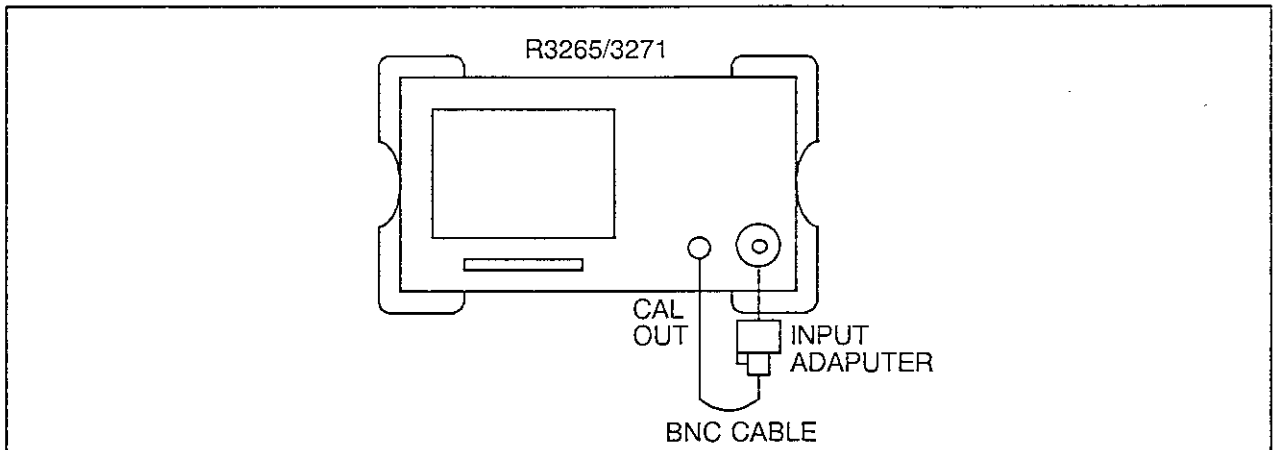

Figure 4-8 Resolution BW Switching Uncertainty Test Setup
(1) Connect the R3265/3271 CALOUT to the INPUT 50 Ω as shown in Figure 4-8.
(2) Press the **PRESET** key, the **SHIFT** key and the **CAL** **7** key **EACH** **ITEM** **RBW** **SWITCH**.